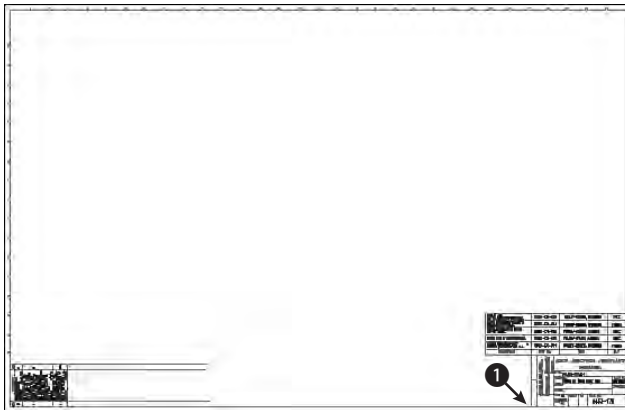

Figure 18-7: A title block can be saved as a file and inserted into any other drawing.
2. Save the file as `ab18-02.dwg` in your AutoCAD Bible folder. This is a large title block as shown in Figure 18-7. OSNAP should be on. Set a running object snap for endpoint.
6. Use Zoom Window to zoom in on the text at the bottom-right corner of the title block. At the **Select objects:** prompt, select all the 90° rotated text at ❶ in Figure 18-7. Press Enter to end selection.